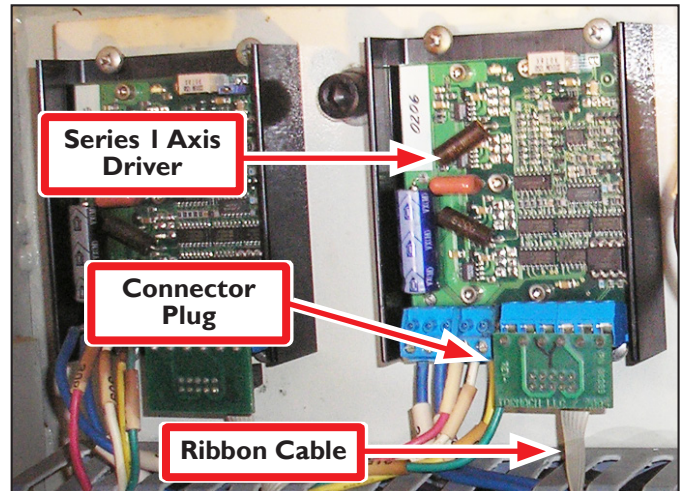
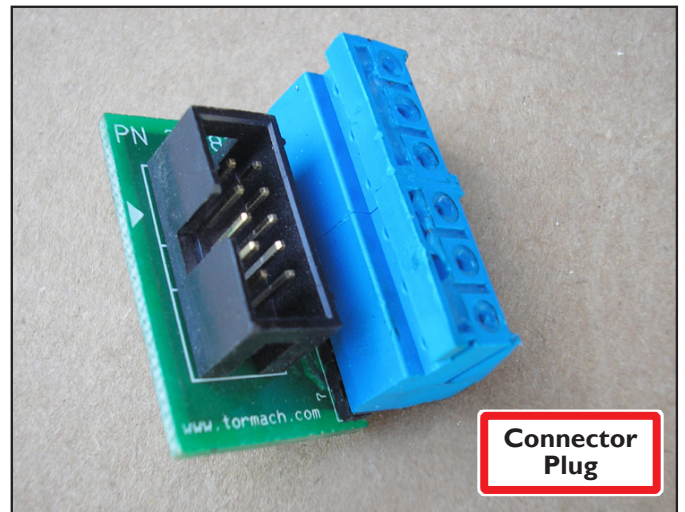

Figure 1
Figure 2
IMPORTANT! This installation procedure applies only to PCNC 1100 mills with serial numbers between 001-999 and that are equipped with original Series 1 Axis Drivers as shown in **Figure 2**. If you upgraded your mill to poly-phase (series 3) axis drivers, do not use the Axis Driver included in this kit.
2. Identify and remove the *Series 1 Axis Driver* that needs replacement from the electrical cabinet (see **Figure 1**).
3. Remove the *Connector Plug* from the drive and the *Ribbon Cable* from the connector; discard the *Connector Plug* (see **Figure 1** and **Figure 2**).